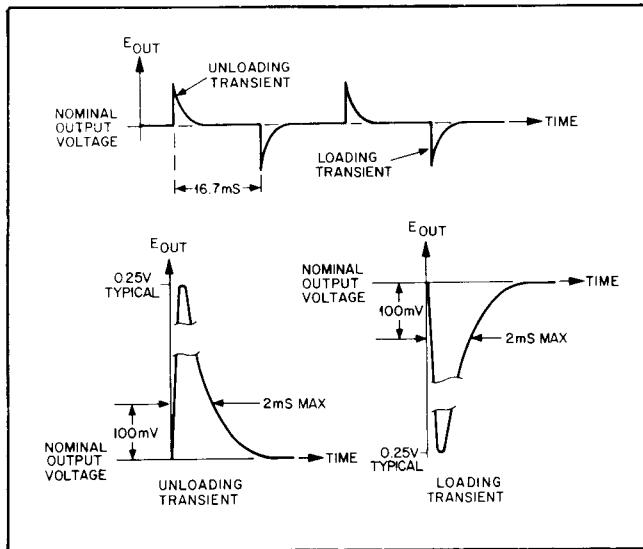

Figure 5-6. Load Transient Recovery Waveforms
f. Adjust oscilloscope to display transients as in Figure 5-6.